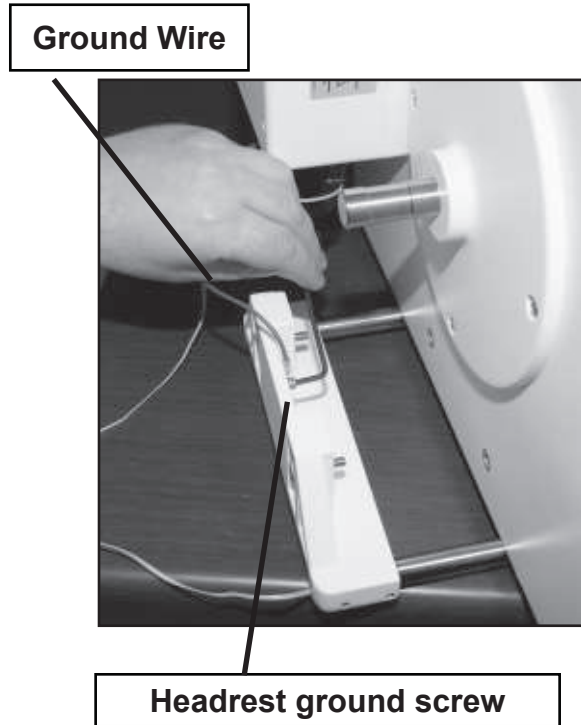

Figure 1: Mounting the headrest and grounding wire
2. Mount the headrest with the socket-head screws and hexagonal wrench (provided). Connect the transformer ground wire to the headrest ground screw and tighten the screw (torque to 7.8 N•m). (See Figure 1)